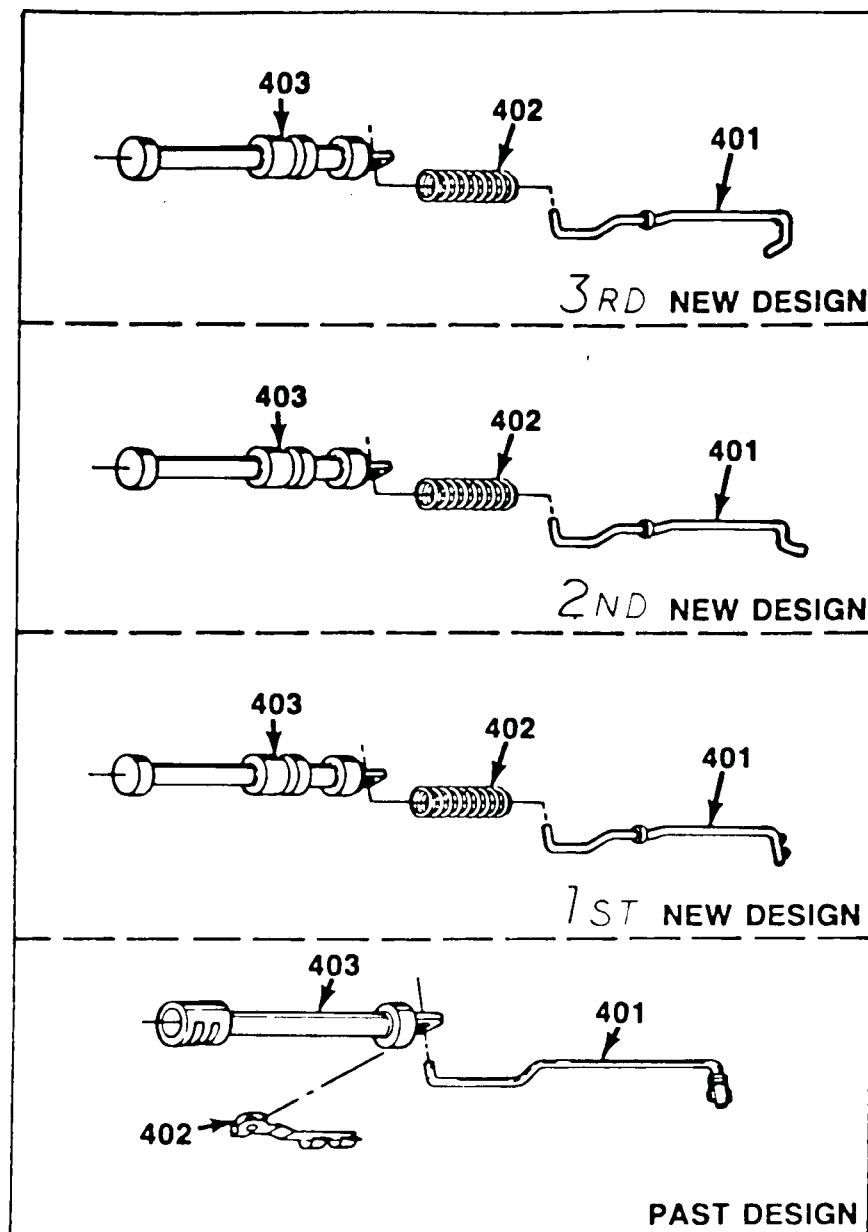

Figure 22
- 3) There has also been some re-design of the manual valve, retainer clip, and manual link to assist in the assembly process (See Figure 22).